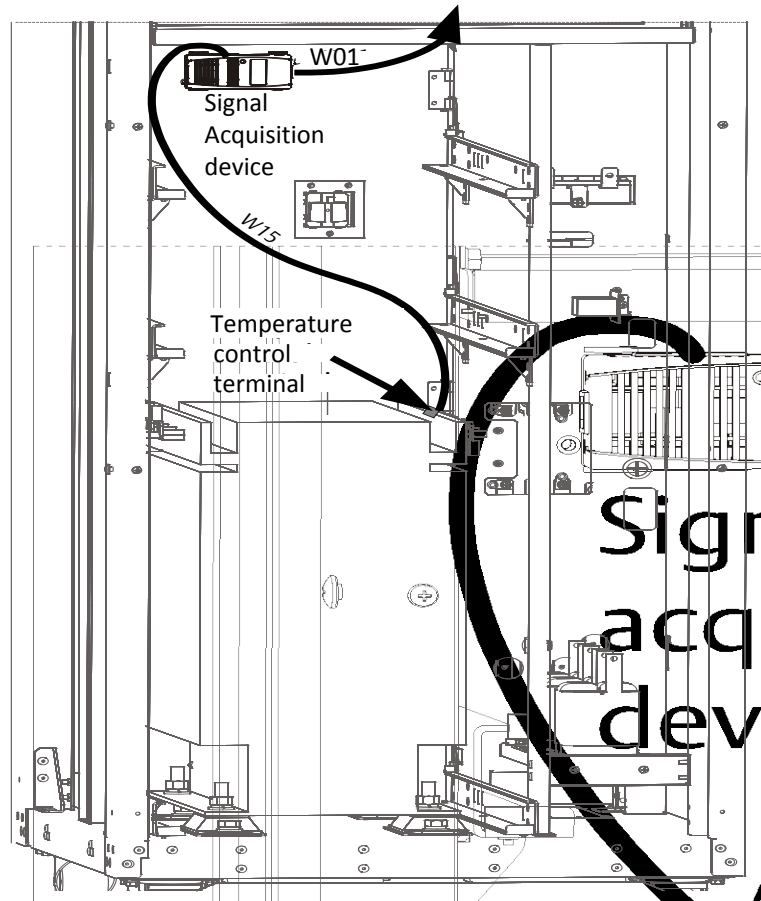

Figure 8-31 Installing signal acquisition device
b) According to the upper diagram in Figure 8-31, dial the DIP switch 4 to 'ON', making the lower left corner of the LCD screen of signal acquisition device displays 10. Connect one end of the signal cable (W15) to the Door1/DI 1 port of signal acquisition device, and the other end to the temperature control terminal of output transformer; connect one end of the signal cable (W01) to the port of signal acquisition device, and the other end to the RS485 card, see the lower diagram in Figure 8-31.